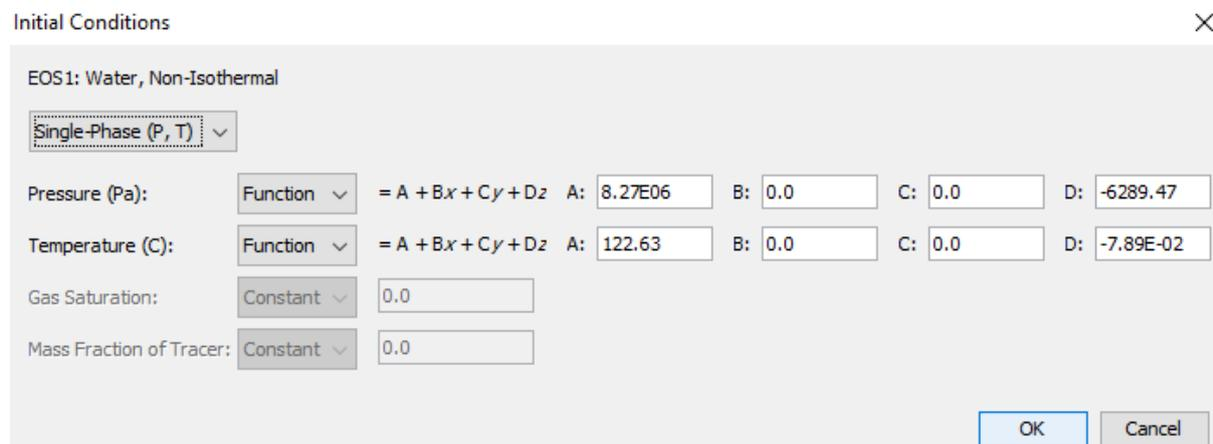

Figure 8. Initial conditions.
2. Select the **Select Mesh Layer** tool and then click on the top cell layer in the model. This will select all cells in the top mesh layer (Figure 8).